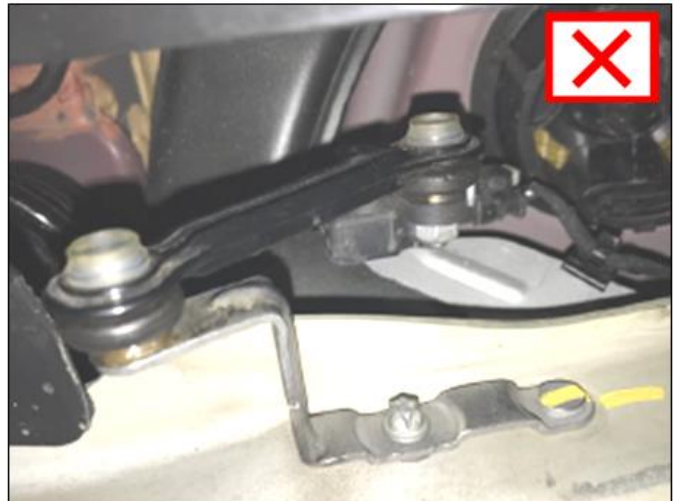

Figure 3 (NOK picture)
**i** The figure 3 (**not OK picture**) represents an **incorrect** installation position!